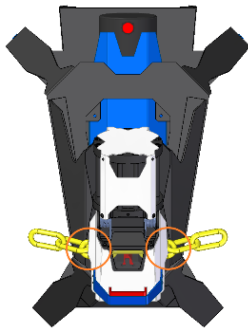

Figure 4: Marking of the chain infeed and outfeed
- **Reaching into the chain infeed and outfeed (Figure 4) is prohibited.** Do not hold the chain in the area of the chain infeed and outfeed during cutting.